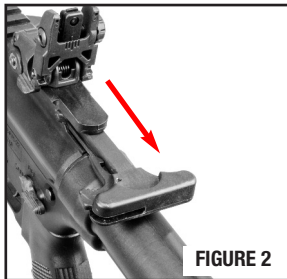
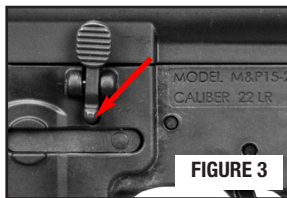

FIGURE 2
FIGURE 3
- Pull the charging handle all the way back (FIGURE 2), press and hold the lower portion of the bolt catch down (FIGURE 3) while you release pressure on the charging handle. This will lock the bolt in the open position. Return charging handle fully forward until it locks and remove finger from bolt catch.